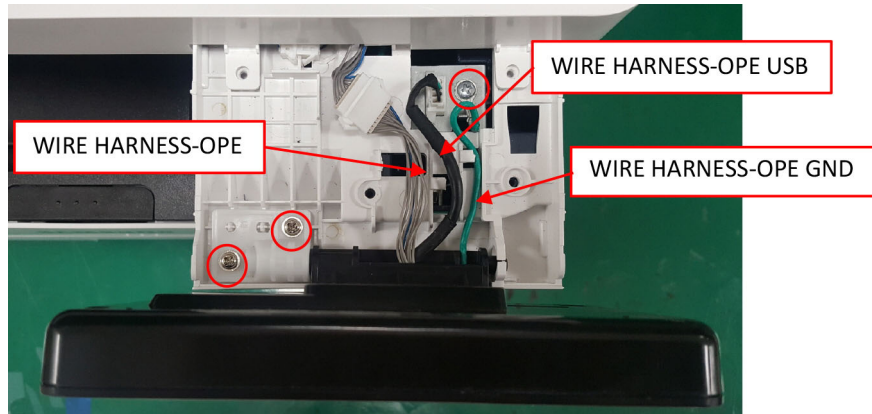

Figure 5 Operator panel removal
- Remove three screws, disconnect two connectors and the ground wire, then remove the Control Panel, Figure 5.